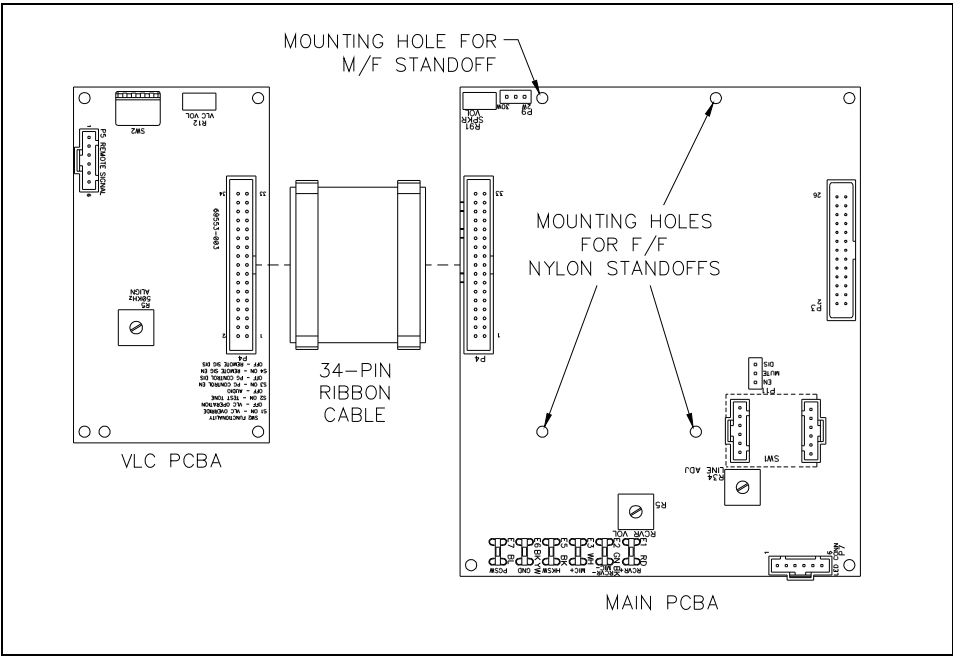

Figure 2.
4. Carefully flip over the Main PCBA and attach three nylon standoffs to the board using three $4 \times 5/16$ PHTF screws shown in Figure 2. Do not mount the VLC PCBA to the Main PCBA at this time.
6. Reattach the Main PCBA to the front cover using three of the four screws removed. Use the M/F standoff in the fourth hole to secure the Main PCBA. See Figure 2.